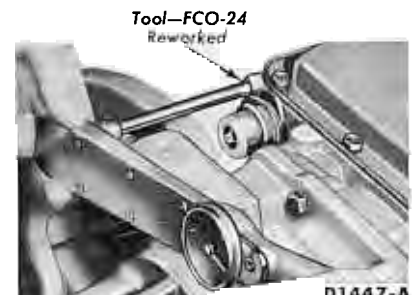

FIG. 102—Installing Vacuum Unit
42. Install the vacuum unit, gasket, and control rod in the case. Using the tools shown in Fig. 102, torque the vacuum unit to 15-23 ft-lbs.